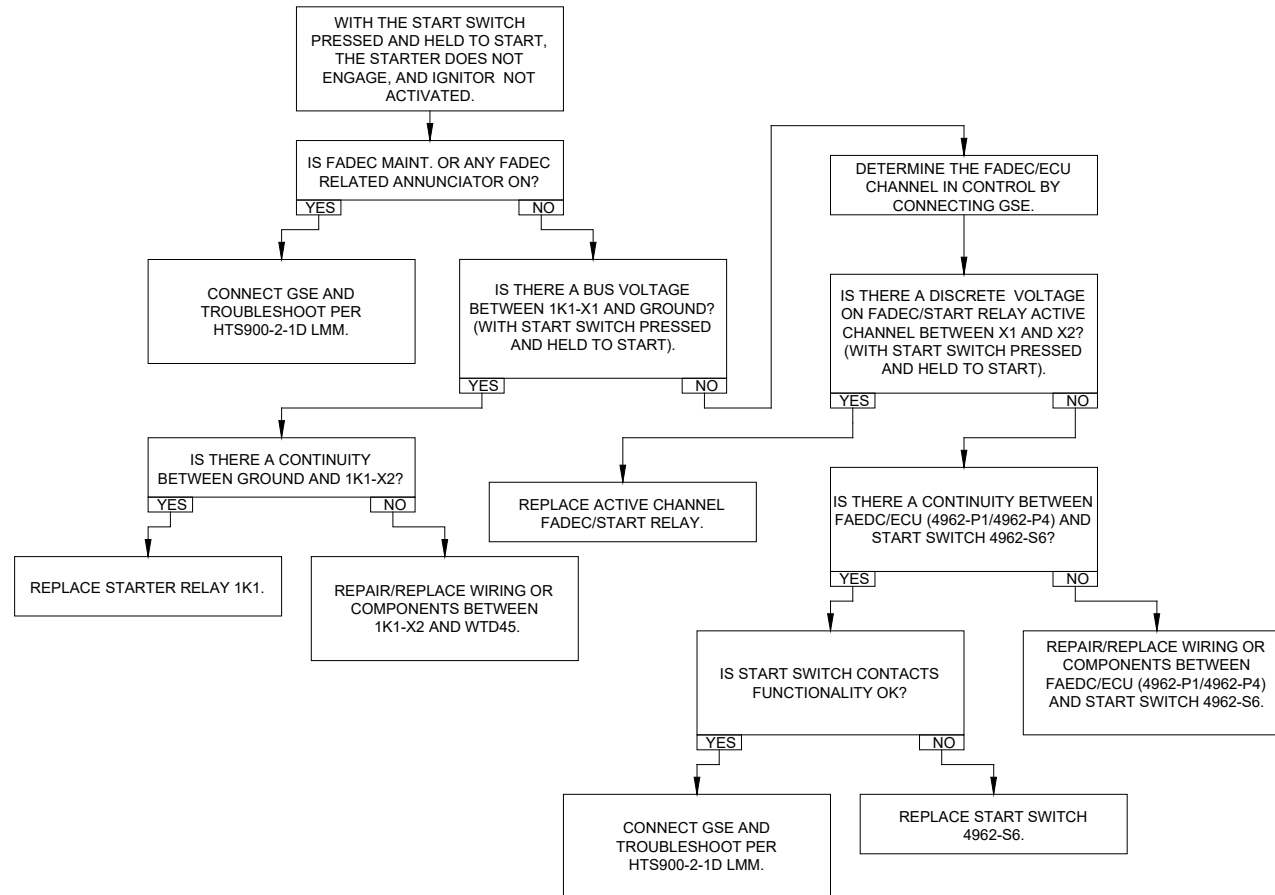

Figure 96-28: Start and Ignition System - Trouble No. 3
- If the starter does not engage and ignitor is activated, refer to Trouble No. 3 (Figure 96-28).